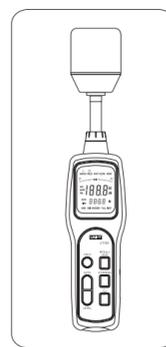

figure 4
**Calibration** (see figure 4)